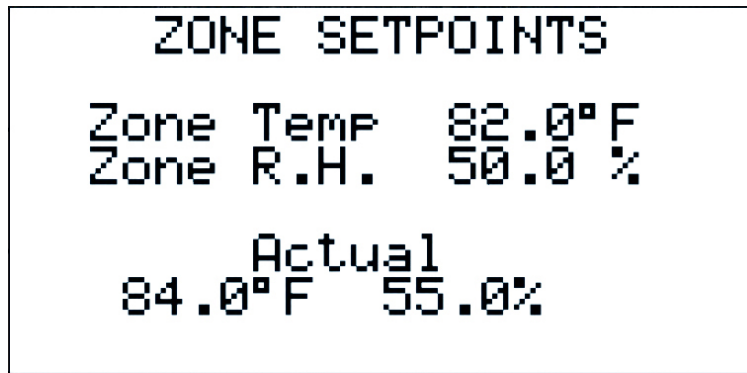

Figure 2
2.2. Zone Setpoints (Figure 2)
Pressing the **Prg** key from the Home Screen displays the ZONE SETPOINTS (Figure 2). This menu allows for modifications of the temperature and humidity setpoints specific to the unit. To modify the setpoints, press the **ENTER** key and use the arrow keys until the desired setting is shown. Press the **ENTER** key to accept the setpoint value. To return to the Home Screen, press the **Esc** key.